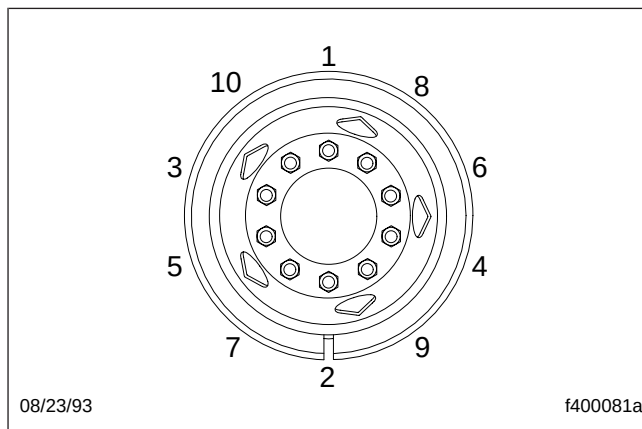
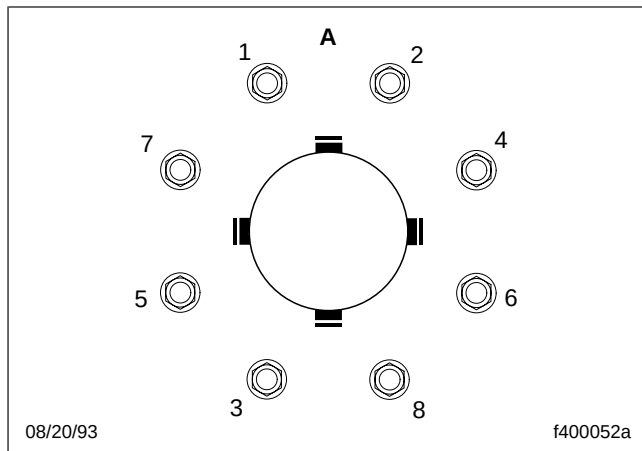

Fig. 11.10, Tightening Pattern, 10-Hole Wheels
Fig. 11.11, Tightening Pattern, 8-Hole Wheels
- 20.4 Make sure all wheel nuts are tightened 450 to 500 lbf·ft (610 to 678 N·m) for Accuride wheels with unlubricated threads. Use the tightening pattern in Fig. 11.10 for 10-hole wheels, and the tightening pattern in Fig. 11.11 for 8-hole wheels. See **Group 40** of the *Heavy-Duty Trucks Service Manual* for more information.